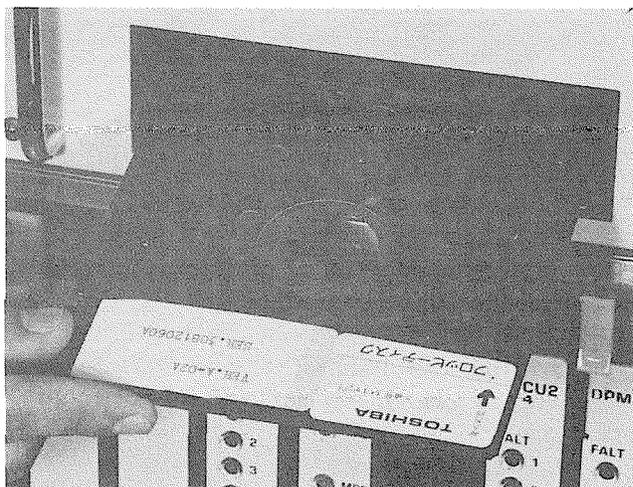

FIGURE 36—INSERTING DISKETTE
- b) Place one of the diskettes in the drive, with the title appliques on the disk facing up (Figure 36), and close the drive door.